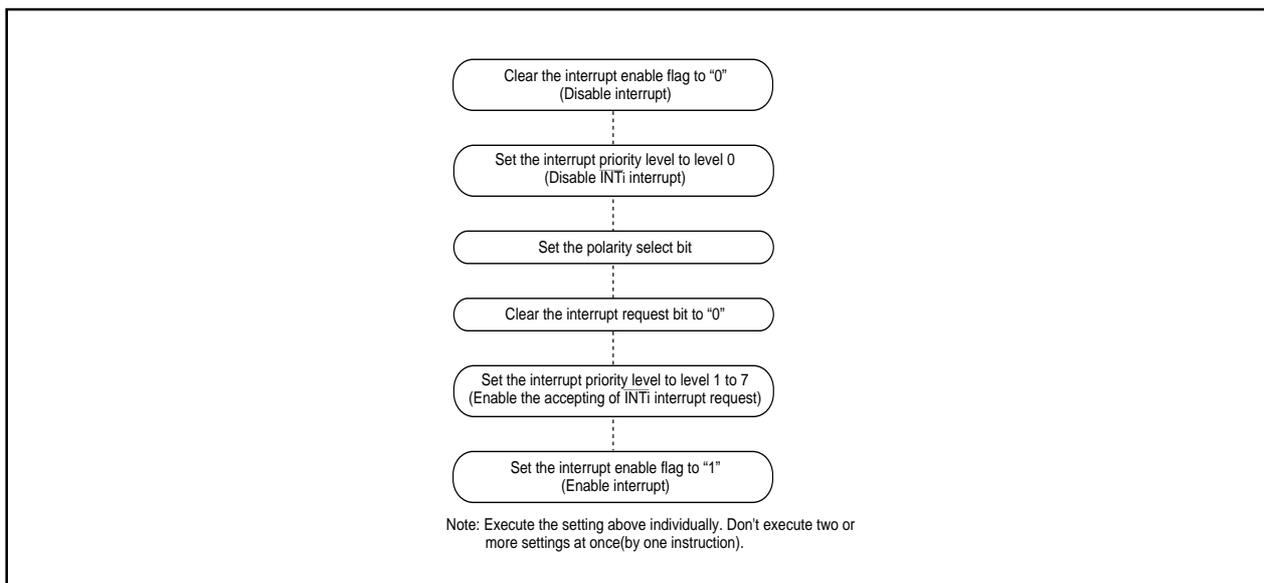

Figure 1.11.13. Switching condition of INT interrupt request
(3) The $\overline{\text{NMI}}$ interrupt
(4) External interrupt
- When the polarity of the $\overline{\text{INT}}_0$ to $\overline{\text{INT}}_5$ pins is changed, the interrupt request bit is sometimes set to "1". After changing the polarity, set the interrupt request bit to "0". Figure 1.11.13 shows the procedure for changing the $\overline{\text{INT}}$ interrupt generate factor.